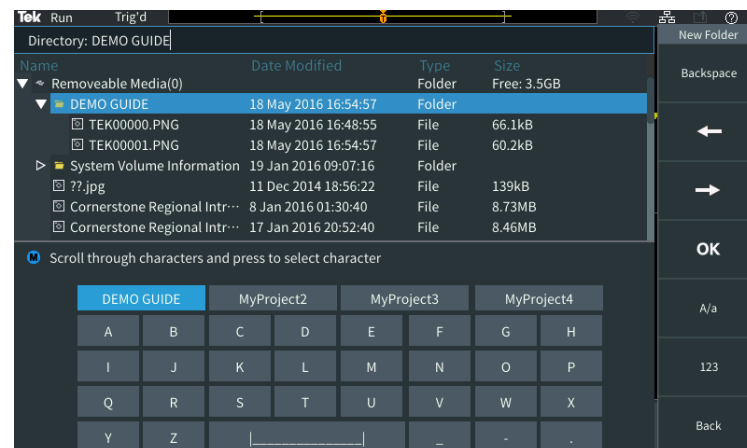

Figure 16. Setting up a directory on a flash drive
7. Press **File Utility**, press **New Folder**, and use the **MPK** to set up a new folder named "DEMO GUIDE" (Figure 16).